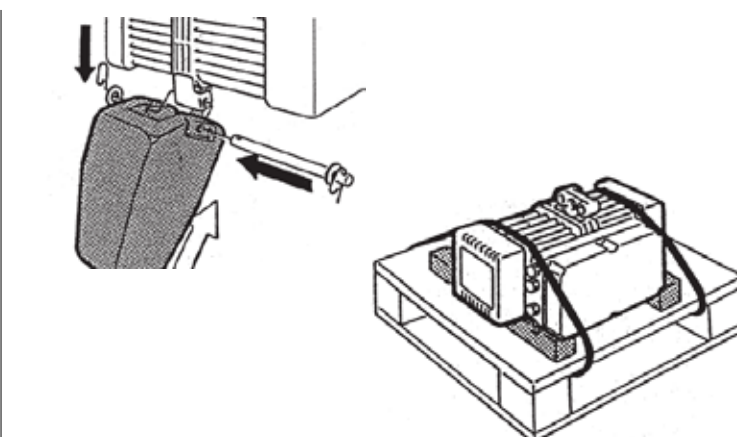

fig.13
2. Fit the chain box, as shown in the figure, onto the hoist attachment and insert the supplied pin and cotter pin. (fig.13)
3. Sling the hoist to the pallet, placing two spacers as shown in the figure to avoid crushing the chain collector and any limit switches. (fig.13)